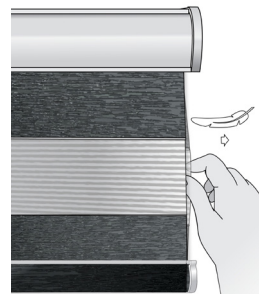

Figure 5: Correcting unaligned fabric
- Then, gently pull the back fabric panel in line with the front. **[Figure 5]**